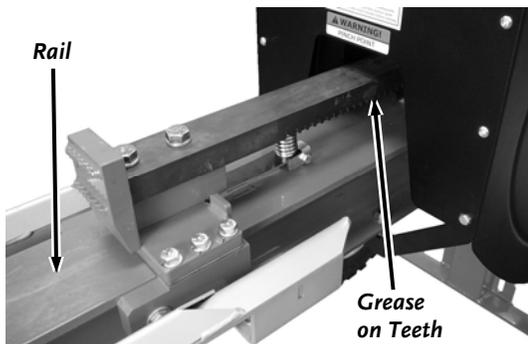

Figure 20
3. Grease the Rack Teeth with All Purpose Grease (**Figure 20**).
Between each use of the LOG SPLITTER, we recommend applying a rust preventative (Fluid Film or equivalent) to any bare metal areas on the top of the rail (**Figure 20**). This will assure the longest possible service life of the Wear Plate.